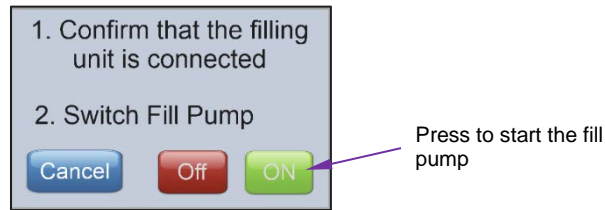

Fig.16 – Fill Pump Manual Activation
- The operator will need to press the 'Fill Required' icon, which will then display the message shown in Fig.16 to ensure that the filling hose (with container of fluid) or the flexible make-up container is connected before the fill pump is activated by pressing the ON button.